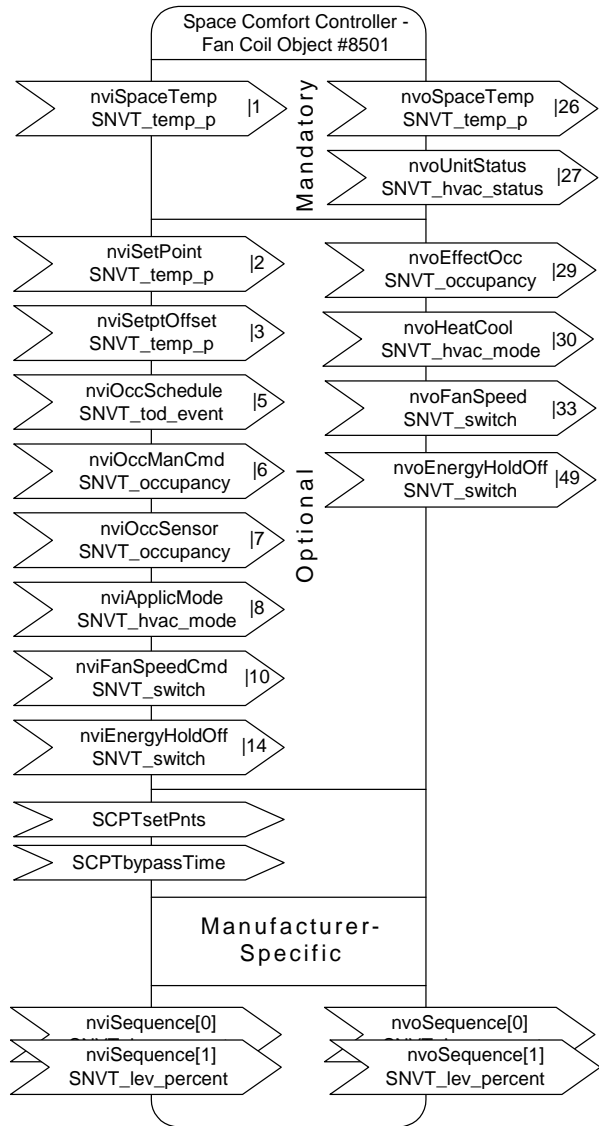

Fig. 8. FCU Controller Object
- un space comfort controller object (#8501 SCC – Fan Coil) (voir Fig. 8)